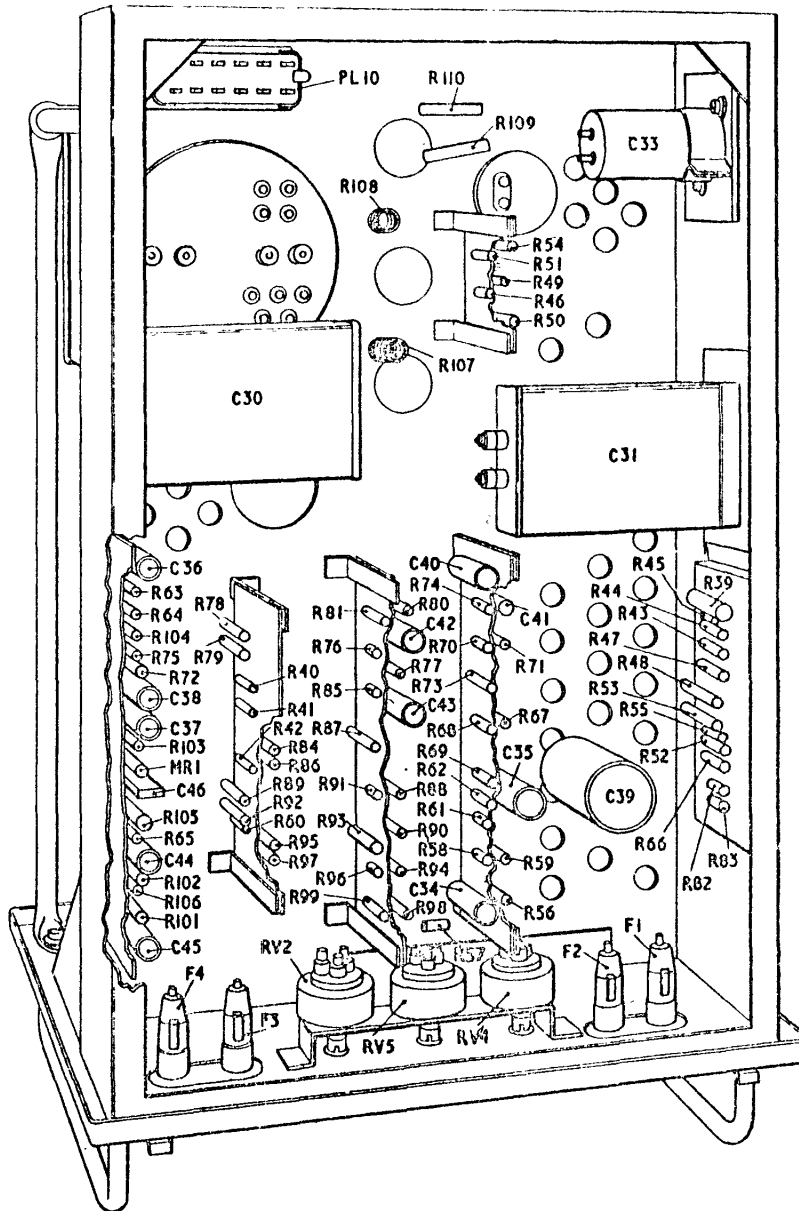

Fig. 3. Under chassis
4. Views of the chassis layout are shown in fig. 3, 4, 5 and 6. A circuit diagram is given in fig. 13. The IF output from the radar receiver is injected at SK.1 and is then passed through